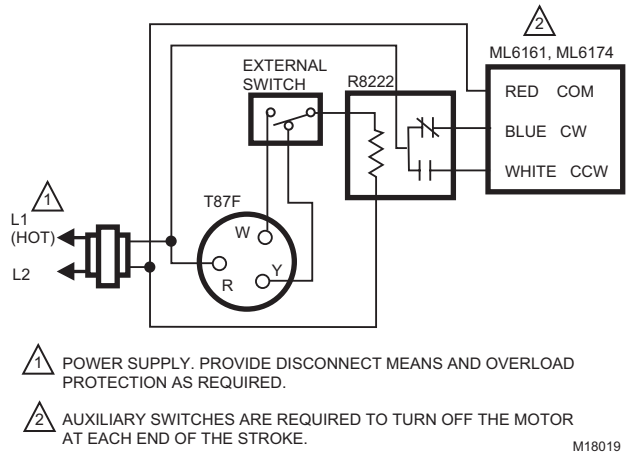

Fig. 11. ML6161 or ML6174 used with T87F in heating-only or cooling-only application.
All wiring must comply with local electrical codes, ordinances and regulations. Voltage and frequency of the transformer used with the actuator must correspond with the characteristics of both the power supply and the actuator. Screw terminals are provided for easy hookup. See Fig. 11 through 14 for typical wiring hookups.
4. Run the connecting wire through the conduit connector, strip the wire ends (if necessary) and connect to the CW, COM and CCW terminals using Fig. 11 through 14, Fig. 16 through 20, or the control manufacturer instructions.